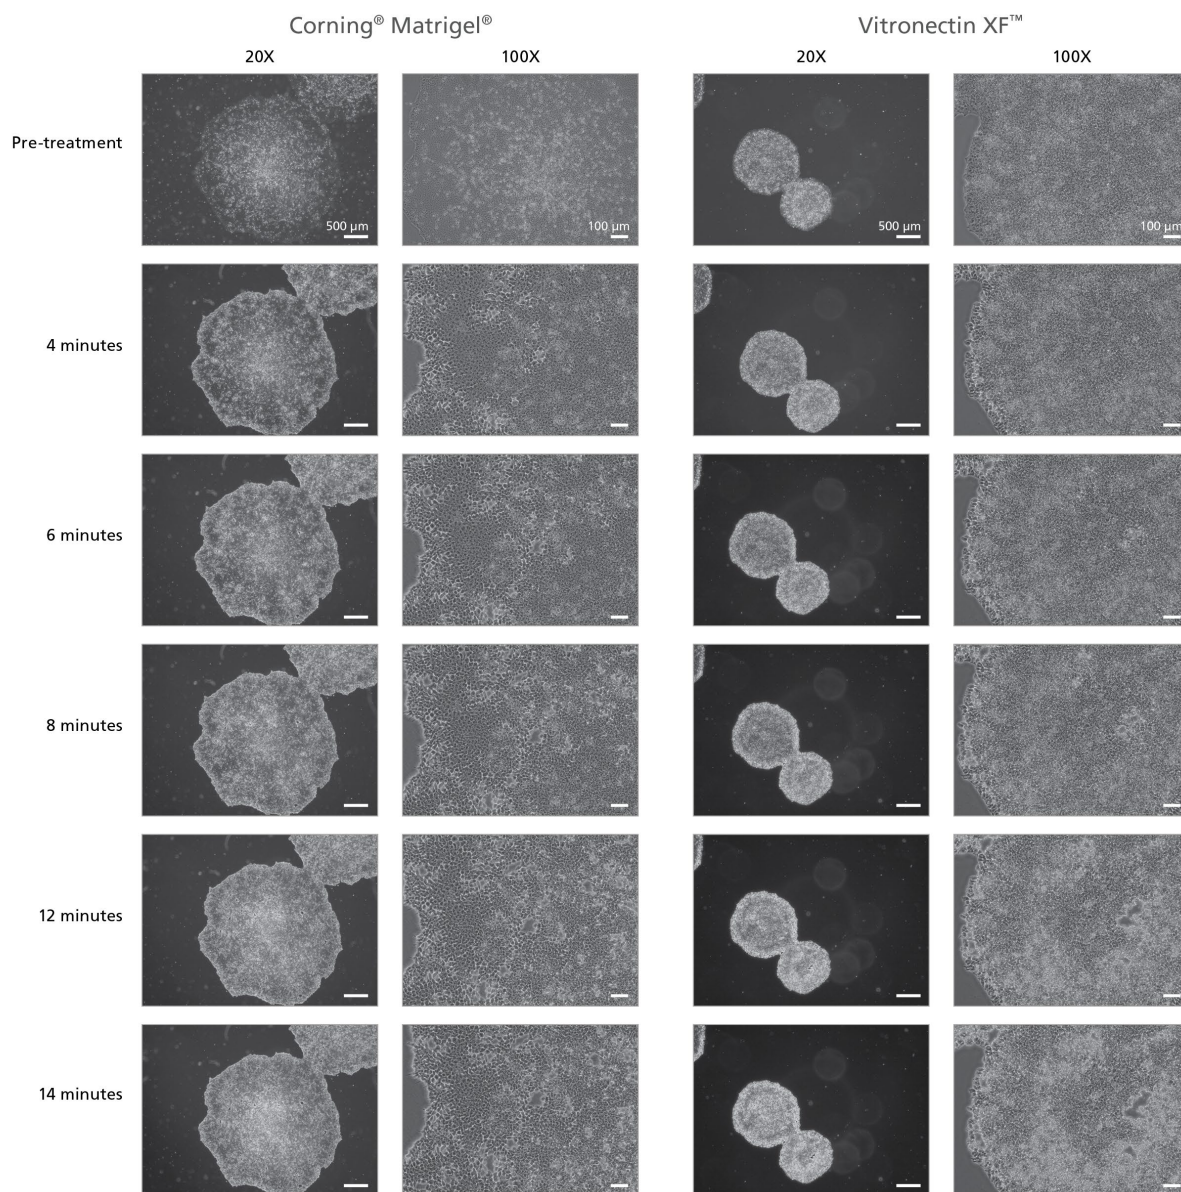

Figure 4. Effect of GCDR on hESCs Cultured on Corning® Matrigel® or Vitronectin XF™ in TeSR™-AOF
6. Incubate at room temperature for 6 - 8 minutes. Refer to Figure 4 for a representative example of the desired appearance following incubation.